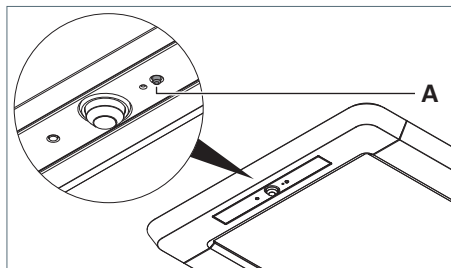
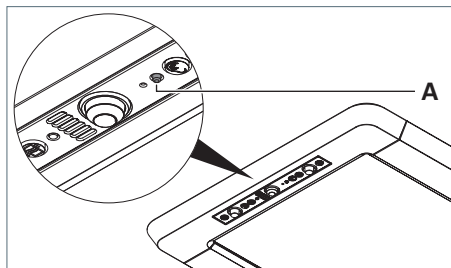

Fig. 25: Carrying out reset, version R.
Fig. 26: Carrying out reset, version RX.
- ▶ Press the key **A**, keep the key pressed and connect the luminaire to the power supply again, see Fig. 25 and see Fig. 26.